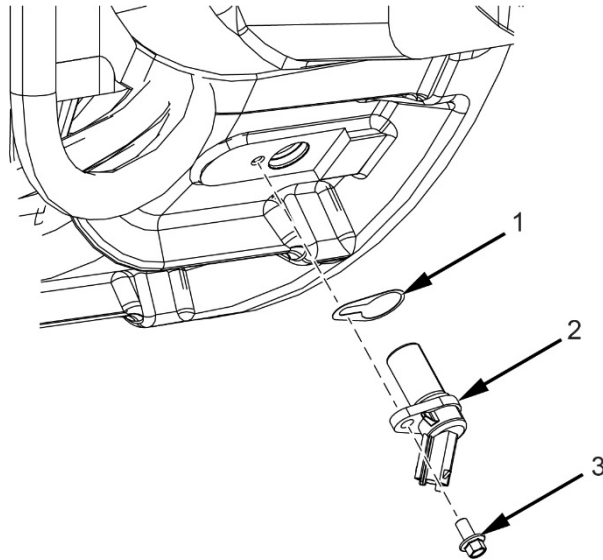

Figure 109.
1. Remove bolt (Figure 109, Item 3) from flywheel housing.
2. Remove crankshaft sensor (Figure 109, Item 2) from flywheel housing.
3. Remove shim(s) (Figure 109, Item 1) from flywheel housing.